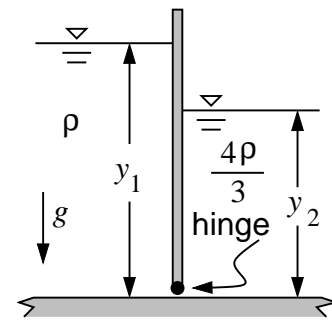

Figure 2: Swivel gate.
2. (10 pts) A rectangular gate having a width  $w$  “into the paper” separates 2 different liquid pools and is pinned at its base with a frictionless hinge (Fig. 2). The left liquid has a density  $\rho$  and a depth  $y_1$ , while for the right the respective quantities are  $4\rho/3$  and  $y_2$ . Both  $y_1$  and  $y_2$  are smaller than the height of the gate. Determine the relationship between  $y_1$  and  $y_2$  such that the hydrostatic loads on both sides are such that the gate remains in static equilibrium in the perpendicular position suggested in the figure. That is, determine  $C$  in the equation  $y_1 = C y_2$ .